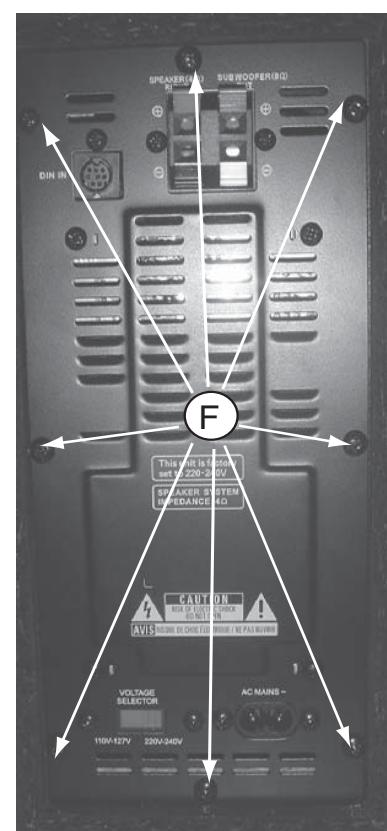

Figure 6
- 1) Loosen 8 screws " F " on the rear plate of speaker set as shown in figure 6.